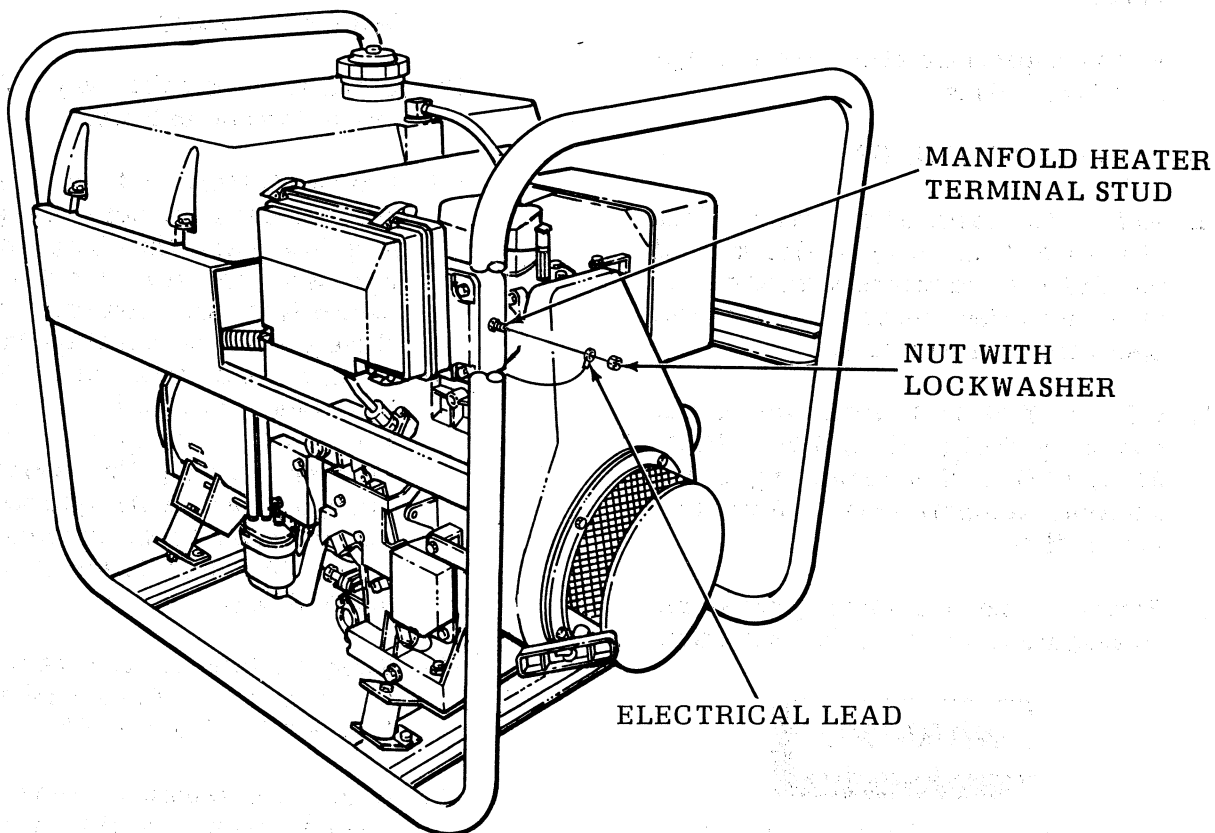

Figure 3-1. Manifold Heater
- (3) Rock the battery side to side to release any trapped air then, readjust electrolyte as necessary.
- (4) Let battery stand for one hour.
- (5) Check and readjust electrolyte level if necessary.
- (6) Clean and neutralize any spilled electrolyte on battery.
- (7) Charge battery with a 3 amp charger until all cells are gassing freely and the charge voltage and specific gravity of electrolyte are constant over three successive readings taken at one hour intervals. (This procedure may take 18 - 24 hours with a constant current charger.) During this period of charging, the electrolyte temperature must be maintained between 60°F and 110°F (15.6°C and 43.3°C).
- (8) When battery is fully charged, the specific gravity should read between 1.285 and 1.295.
- (9) Check and readjust electrolyte level to proper height then recharge for one hour.
- (10) Install spill-proof caps on all cells.
- f. Generator Sets shipped to areas where the normal operating temperatures are above 30°F are delivered with the manifold heater electrical lead (Figure 3-1) disconnected